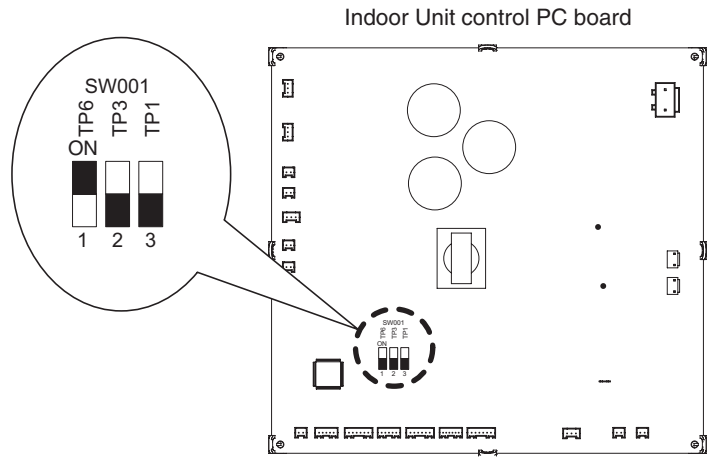

Fig. 8-1
2. Open the lid of the electrical component box and confirm the location where the Select switch on the indoor unit control PCB is placed. (Fig. 8-1)